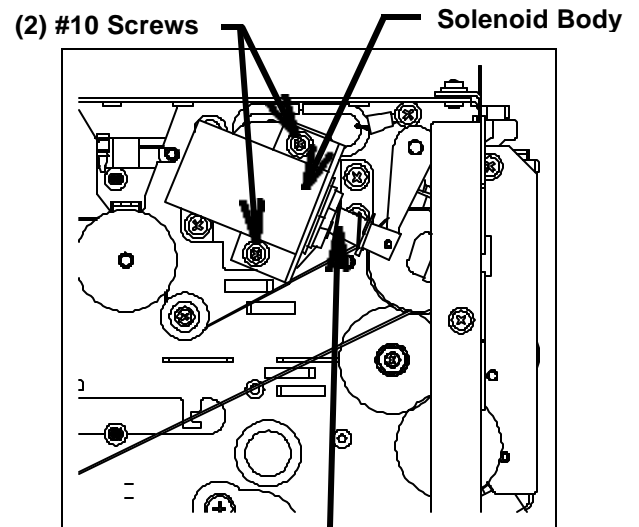

Figure 1
6. Remove (2) #10 screws (Figure 1) and the Solenoid Body (rotate the Solenoid Body downward and away from the mounting bracket to remove).